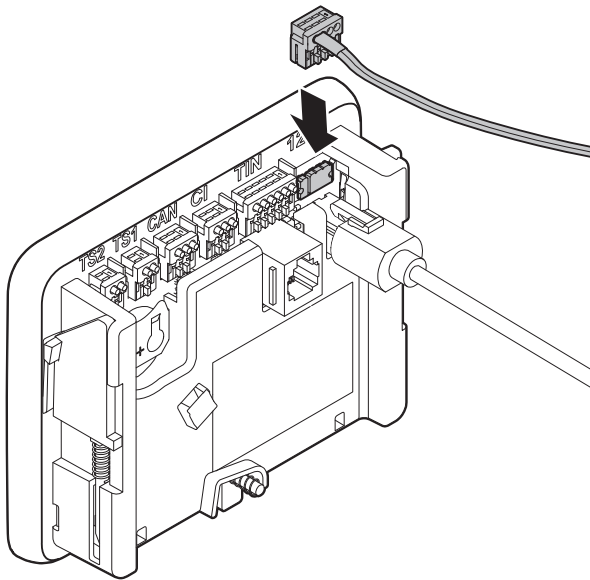

Fig. 10
- Insert the plug of the panel cable (Fig. 10) into the panel carefully from above without kinking the panel cable at the transition between the panel cable and the plug.